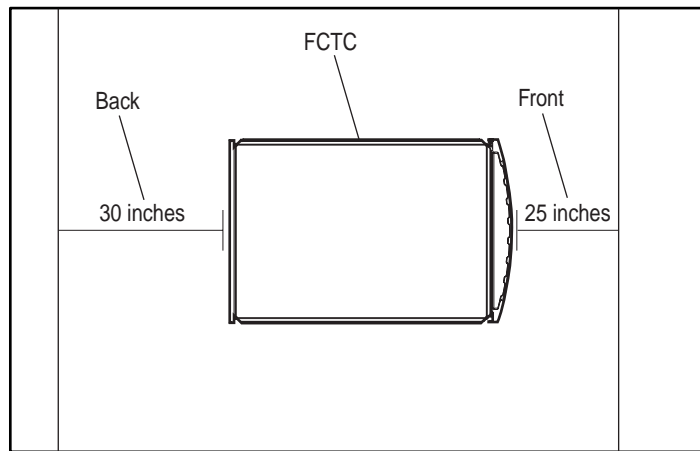

Figure 2-1. Space requirements for the FCTC
- Clearance in the back of the rack should be a minimum of 30 inches (76.2 centimeters) to allow for servicing and for adequate airflow. See Figure 2-1.